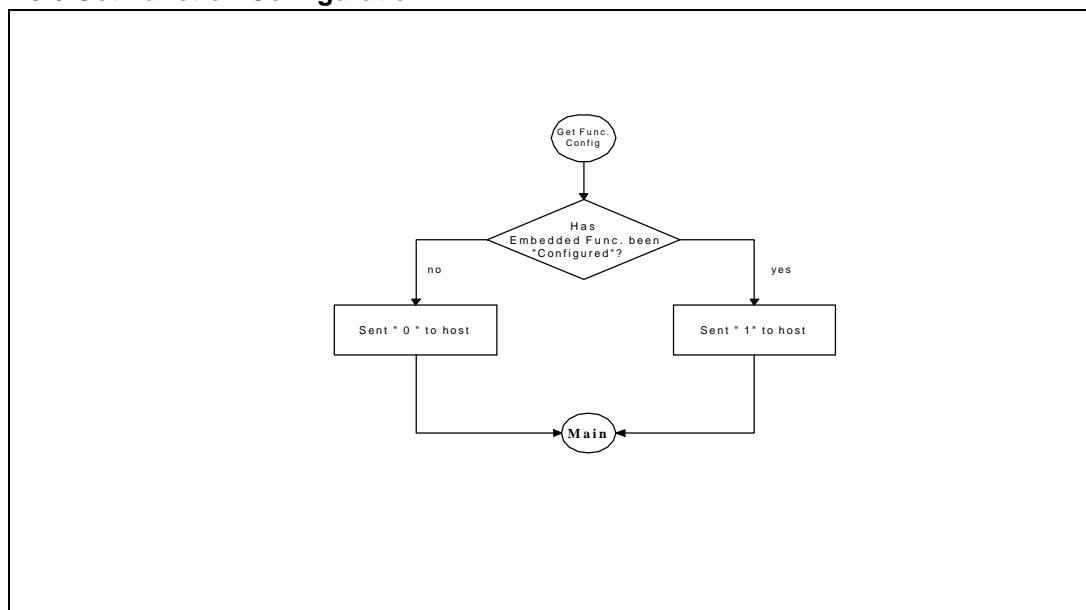

Figure 30: Embedded Function Get Configuration Standard Command
- Get Function Configuration (Figure 30)